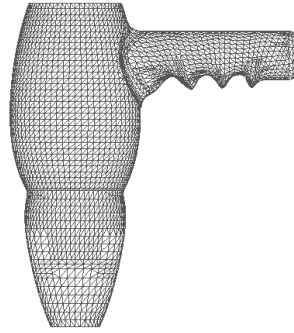

Figure 11-90 Mesh generated on the model
3. Enter **0.5** in the **Max edge length** edit box and then choose the **Go** button; the mesh is generated on the model, as shown in Figure 11-90.
All surfaces of the model in Figure 11-90 have been hidden to get a clear view of the generated meshes.